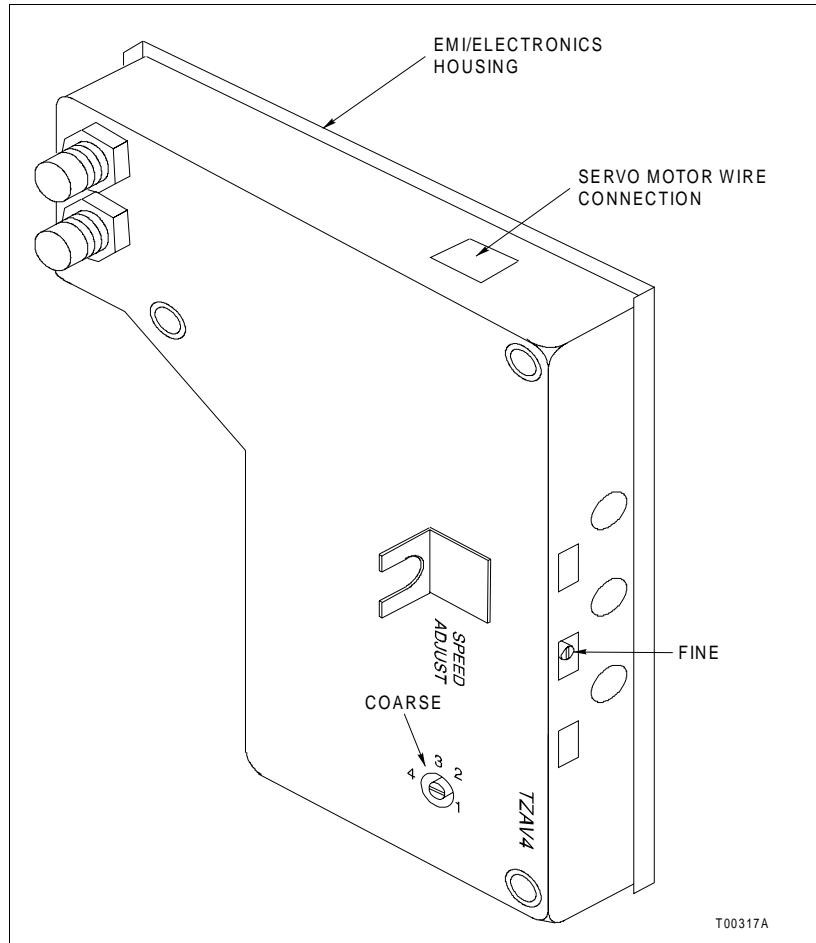

Figure B-10. Type AV4 Positioner Motor Speed Adjustment
2. Set the fine adjustment to the fastest speed (fully clockwise) (Fig. B-10).